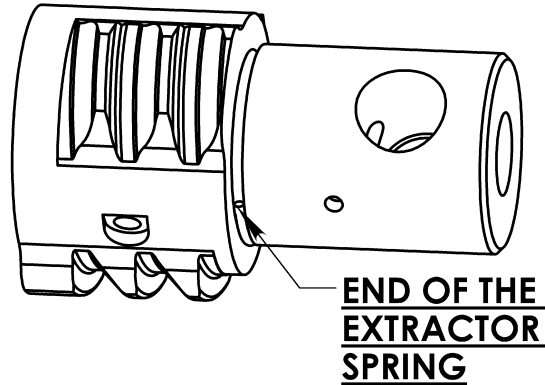
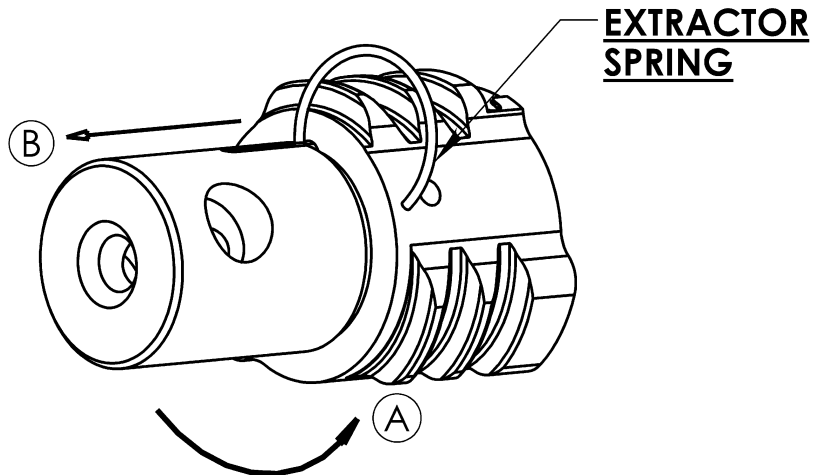
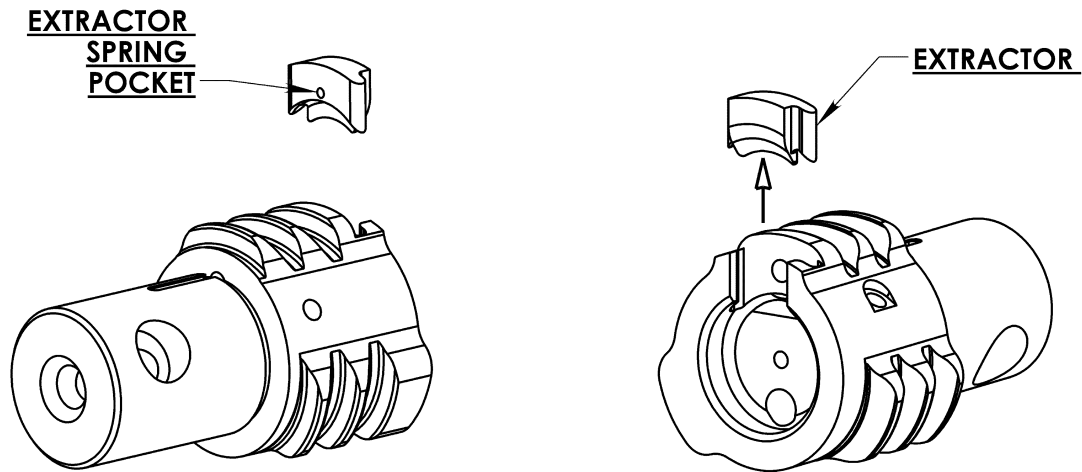

Figure 17.
Figure 18.
Figure 19.
1. Locate the end of the extractor spring. It is located just behind the bolt lugs. (Figure 17) It is a single bent wire. Using a 1/16" punch, gently lift the end of the extractor spring and unwrap it clockwise from the bolt. With the circular part of the spring up and fully out of the slot in the bolt, withdraw the spring (Figure 18). Next slide the extractor out of the slot in the bolt. (Figure 19)